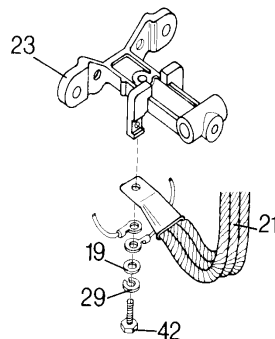

Figure 5 Assembling the Arc Chute Wires and Shunt
1. Remove all power. Disconnect arc chute wires by removing the hex head cap screw (item 42), washer (item 19), lock washer (item 29), arc chute and shunt (item 21).
3. Remove arc chute by removing hex head nut (item 12), lock washer (item 8), hex head screw (item 40) and arc chute.
6. Reconnect arc chute wires and shunt using washer, lock washer and hex head cap screw (see Figure 5).
1. Remove all power. Disconnect bottom end of shunt (item 21) by removing hex head cap screw, lock washer, washer, arc chute wires and shunt.
3. Visually verify that auxiliary arm pin (item 27) is centered and set screw (item 18) is tight.
5. Connect bottom end of shunt by replacing shunt, arc chute wires, washer, lock washer and hex head cap screw (see Figure 5).